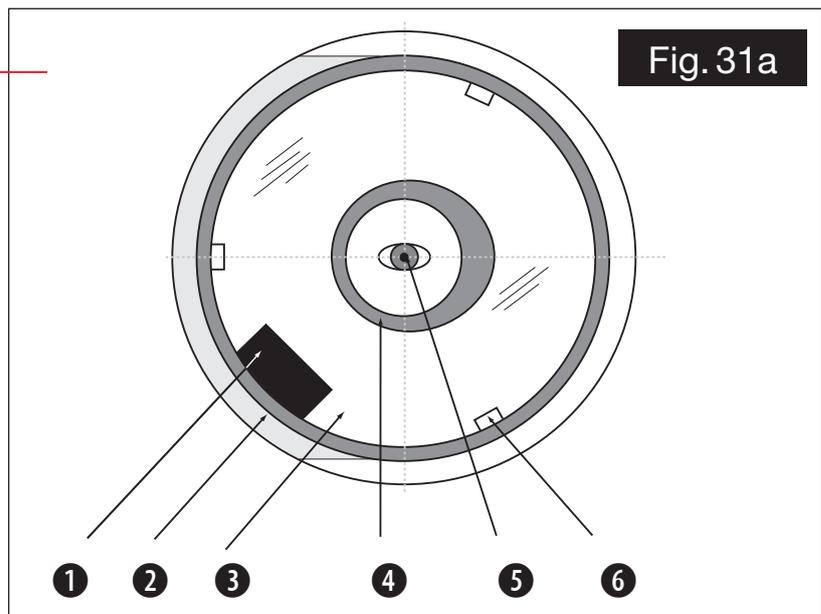

Fig. 31a
Fig. 31a shows a correctly collimated Newtonian telescope, as it appears when viewed through the focuser with the eyepiece removed.
1. Observe through the focuser and orient your body so that the telescope's primary mirror is to your right. The diagonal mirror will appear centered as shown (2, Fig. 31a). If the diagonal appears off center, then adjust the 4 collimation screws on the plastic diagonal mirror housing.
2. If the reflection of the primary mirror (3, Fig. 31a) is not centered on the surface of the diagonal mirror, adjust the 4 collimation screws on the plastic diagonal mirror housing to center the reflection. As described above, the 4 collimation screws (Fig. 31b) on the plastic diagonal mirror housing are used for two different adjustments during the collimation procedure.